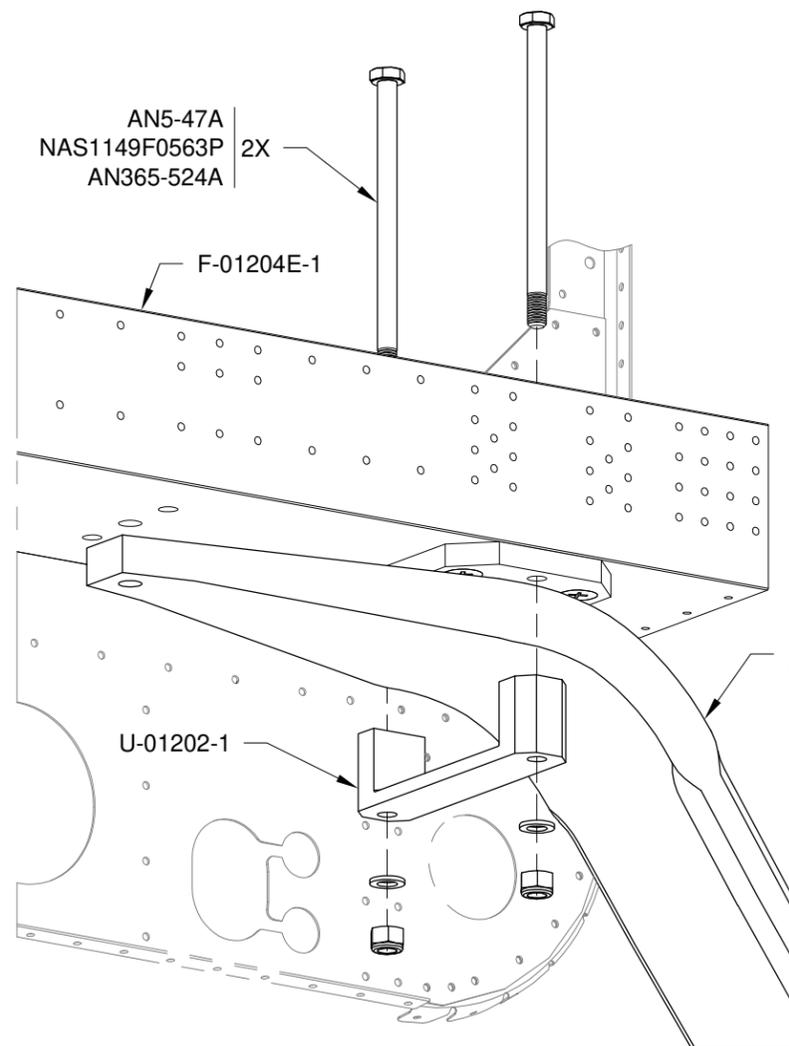

FIGURE 2: GEAR LEG ATTACH OUTBOARD
Step 4: Maneuver the U-01220-R-1 (or U-1220-R) and U-01202-1 outboard bracket into position at the same time. See Figure 2. Install the washers and nuts but don't tighten them down yet.